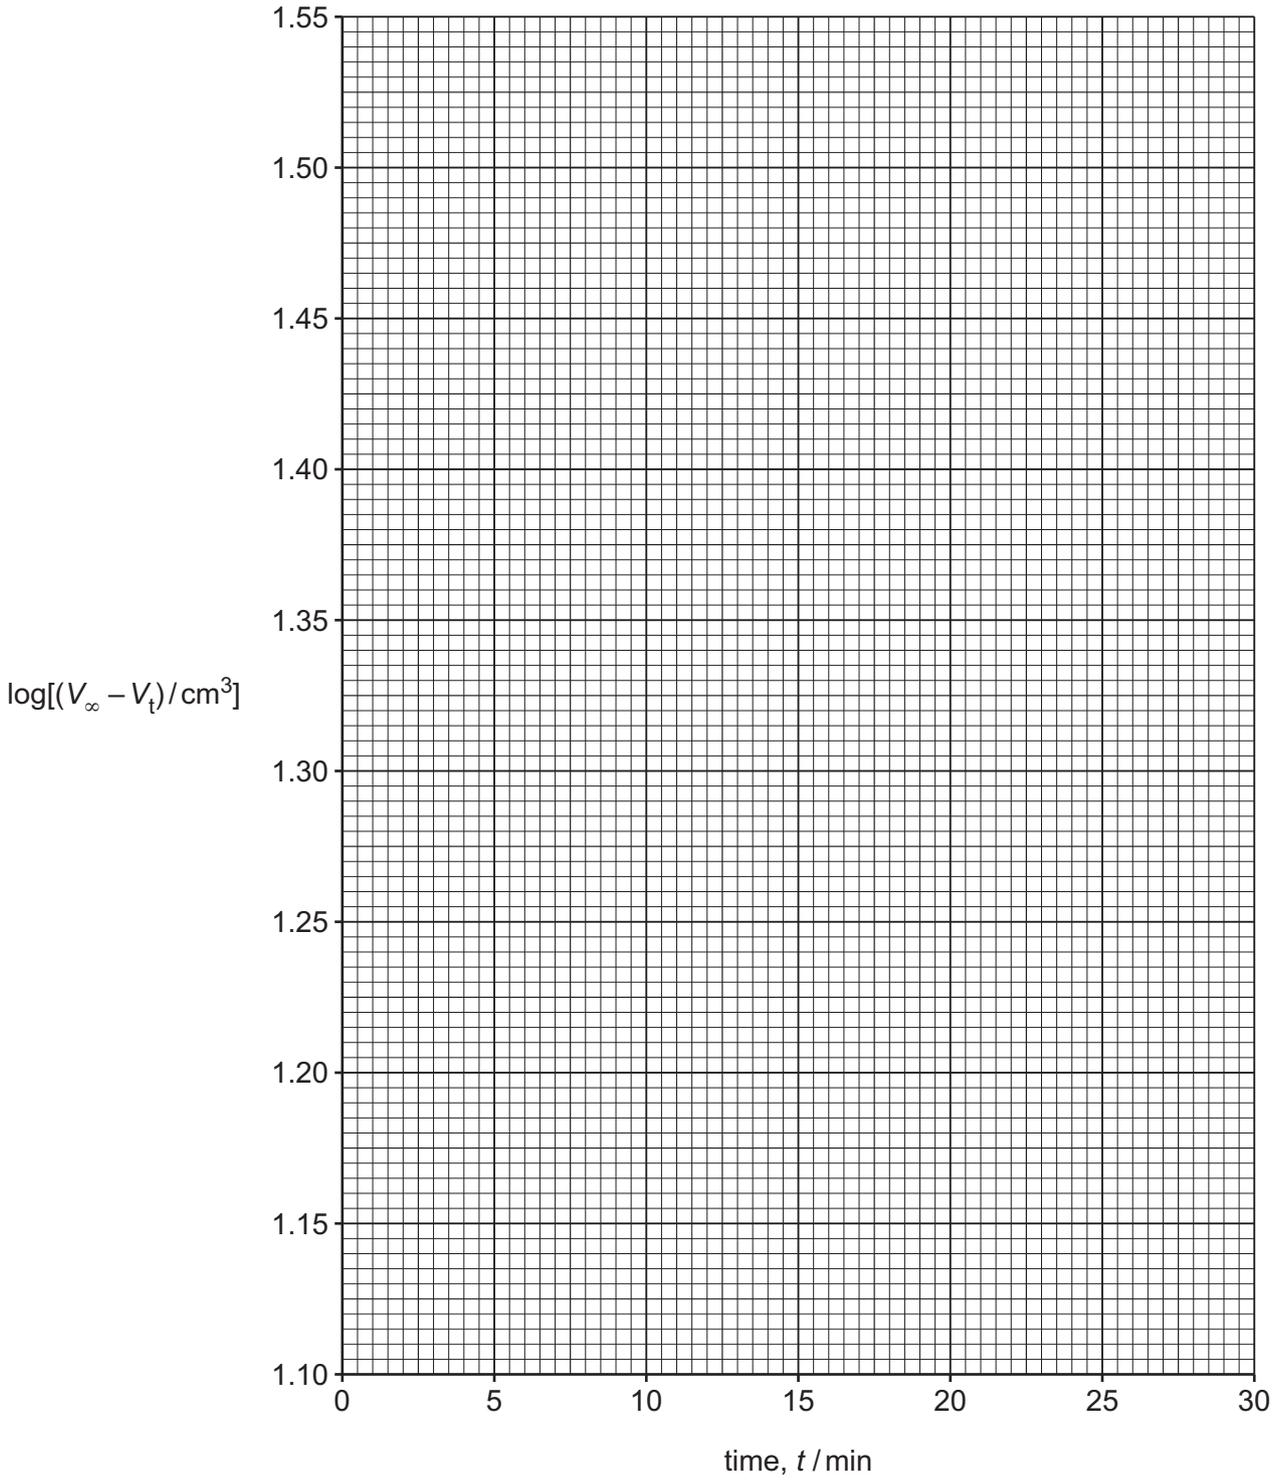

Fig. 2.1
- (ii) Plot a graph on the grid in Fig. 2.1 to show the relationship between $\log[(V_\infty - V_t)/\text{cm}^3]$ and time, t . Use a cross (\times) to plot each data point.
(iv) Determine the gradient of your line of best fit in Fig. 2.1.
(d) The equation of the straight line plotted in Fig. 2.1 is shown.
(e) Use your graph in Fig. 2.1 to state whether you consider the results to be reliable. Give a reason for your answer.
Sketch a suggested line of best fit on Fig. 2.1 for the second experiment. [1]